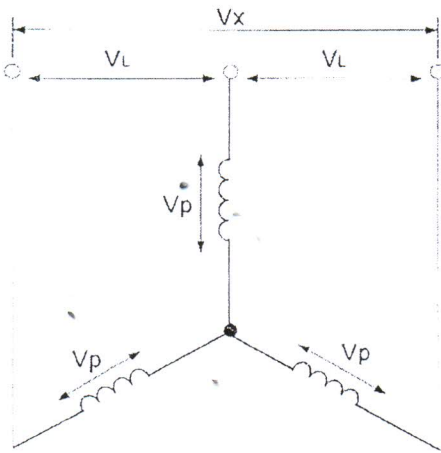
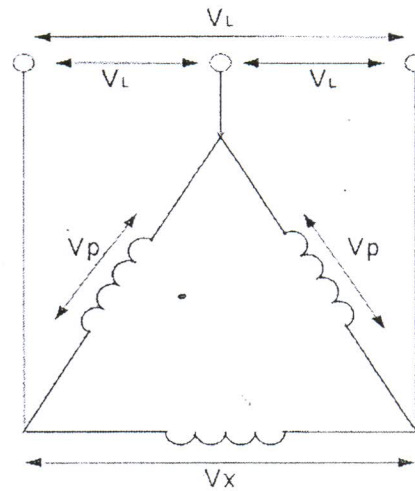

Figure 1
Figure 2
Figure 1 and Figure 2 shows two types of 240V/415V induction motor connection
- i. What type of connection shown in figure 1 ?
- ii. Determine V_L , V_P and V_X for figure 1.
- iii. What type of connection shown in figure 2 ?
- iv. Determine V_L , V_P and V_X for figure 2.